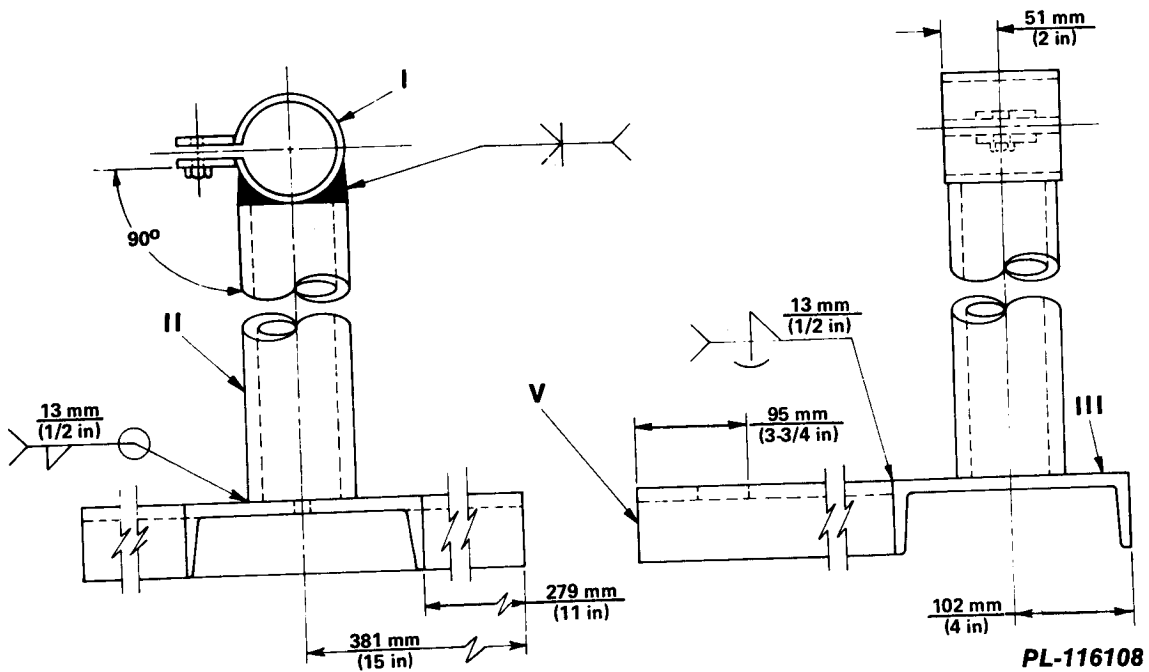

Figure 6-48
- C. Stand weldment - right hand (Figure 6-48).